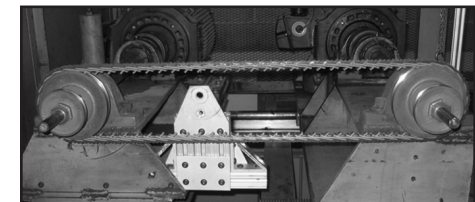

Fig. 9
- Adjust the take up mechanism back to previously marked mid-position. See Fig. 9.